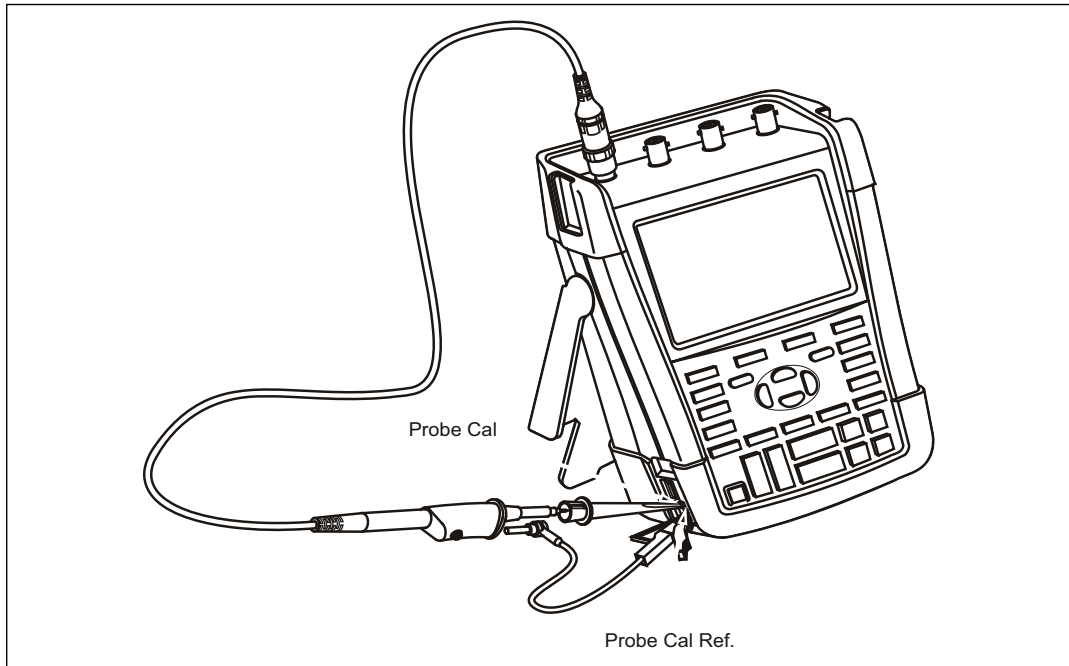

Figure 5-19. 10:1 Probe Calibration Connection
1. Connect the red probe from the red Input A BNC to the banana jack. See Figure 5-19.